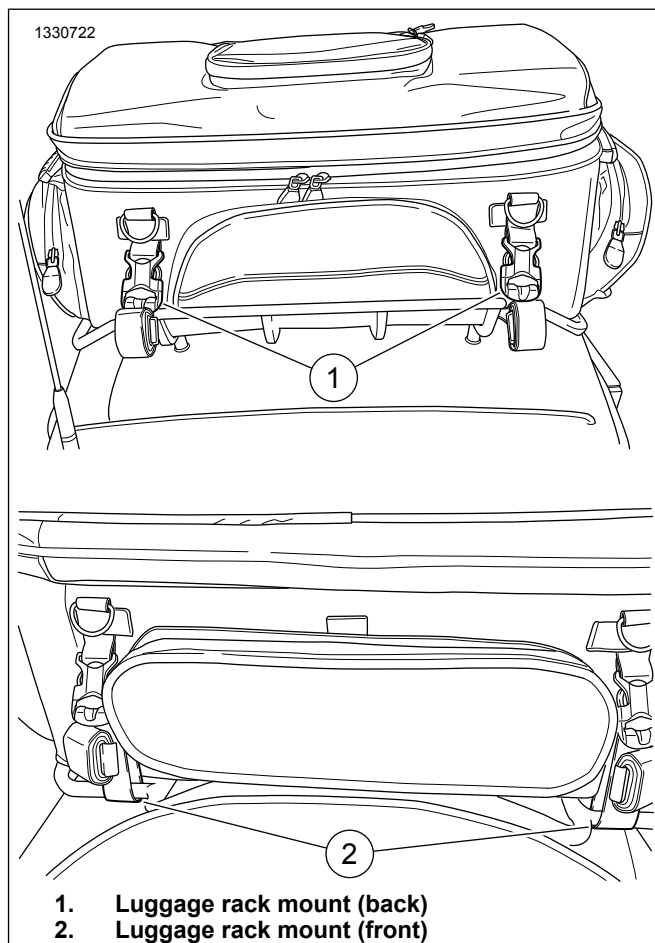
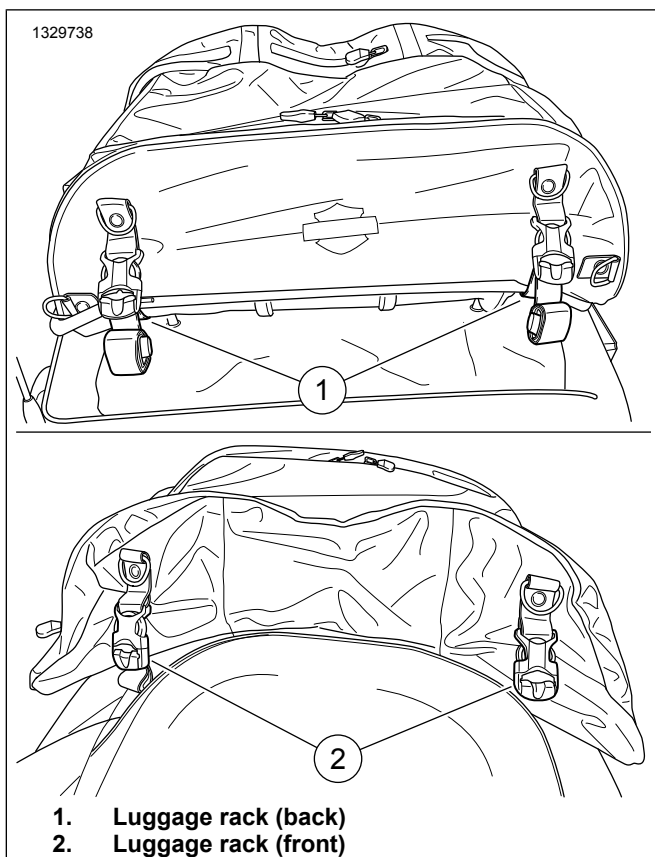

Figure 6. T-Pak Bag
Figure 7. T-Pak Collapsible Bag
- a. See Figure 6 or Figure 7. Secure four straps with quick-release buckles to luggage rack.
1. See Figure 6. Position bag on luggage rack.
1. See Figure 7. Position bag on luggage rack.